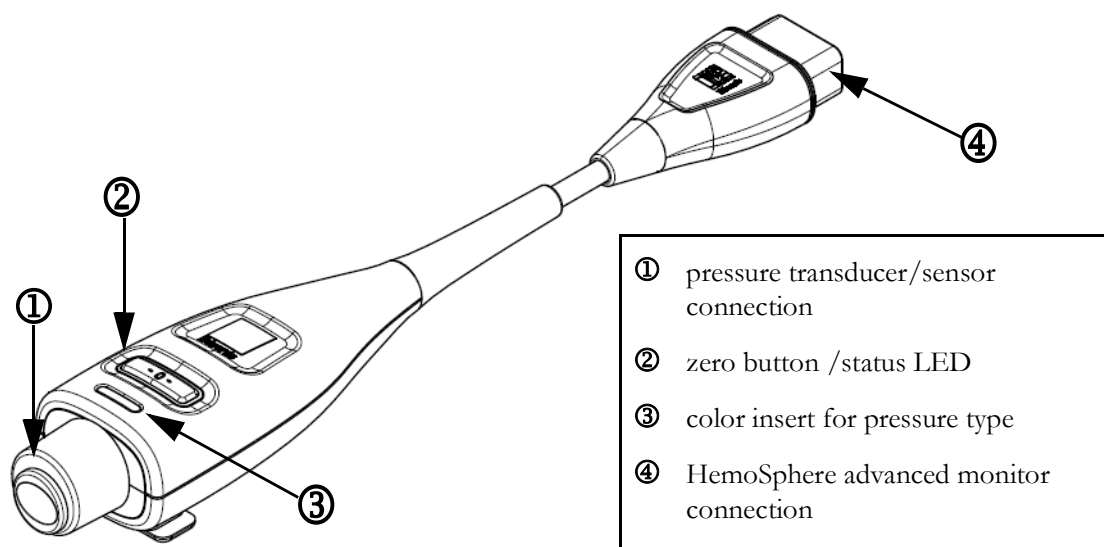

Figure 10-1 HemoSphere pressure cable
The HemoSphere pressure cable is a reusable device that connects with the HemoSphere monitor on one end ④ and any approved single Edwards disposable pressure transducer (DPT) or sensor on the other end ①. See figure 10-1 on page 179. The HemoSphere pressure cable acquires and processes a single pressure signal from a compatible Edwards DPT, such as the TruWave DPT, or a FloTrac sensor. A FloTrac or Acumen IQ sensor connects to an existing arterial catheter to provide minimally invasive hemodynamic parameters. A TruWave transducer can connect to any compatible pressure monitoring catheter to provide location based intravascular pressure. Refer to the directions for use provided with each catheter for specific instructions on catheter placement and use, and for relevant warnings, cautions and notes. The HemoSphere pressure cable can be monitored through two technology monitoring modes based on the paired sensor/transducer: **FloTrac** or **Acumen IQ** sensor monitoring mode or **Swan-Ganz** catheter monitoring mode. The monitoring mode appears on the top of the navigation bar (see figure 5-2 on page 90). The appearance and connection points for the HemoSphere pressure cable are shown in figure 10-1.
Pressure Type Color Insert. If desired, the appropriate color insert can be used on the pressure cable to indicate the monitored pressure type. See ③ in figure 10-1 below. The colors are as follows:
- Red for arterial pressure (AP)
- Green for cardiac output (CO)
- 7 Use a straight in or out motion to connect the green connector of the primed FloTrac sensor. The pressure cable LED that surrounds the zero button (see ② in figure 10-1) will flash green indicating that the pressure sensor is detected. A yellow light indicates a fault condition. If this occurs refer to the status bar for specific fault condition details.
Press the physical zero button  directly on the pressure cable and hold for three seconds (see figure 10-1).